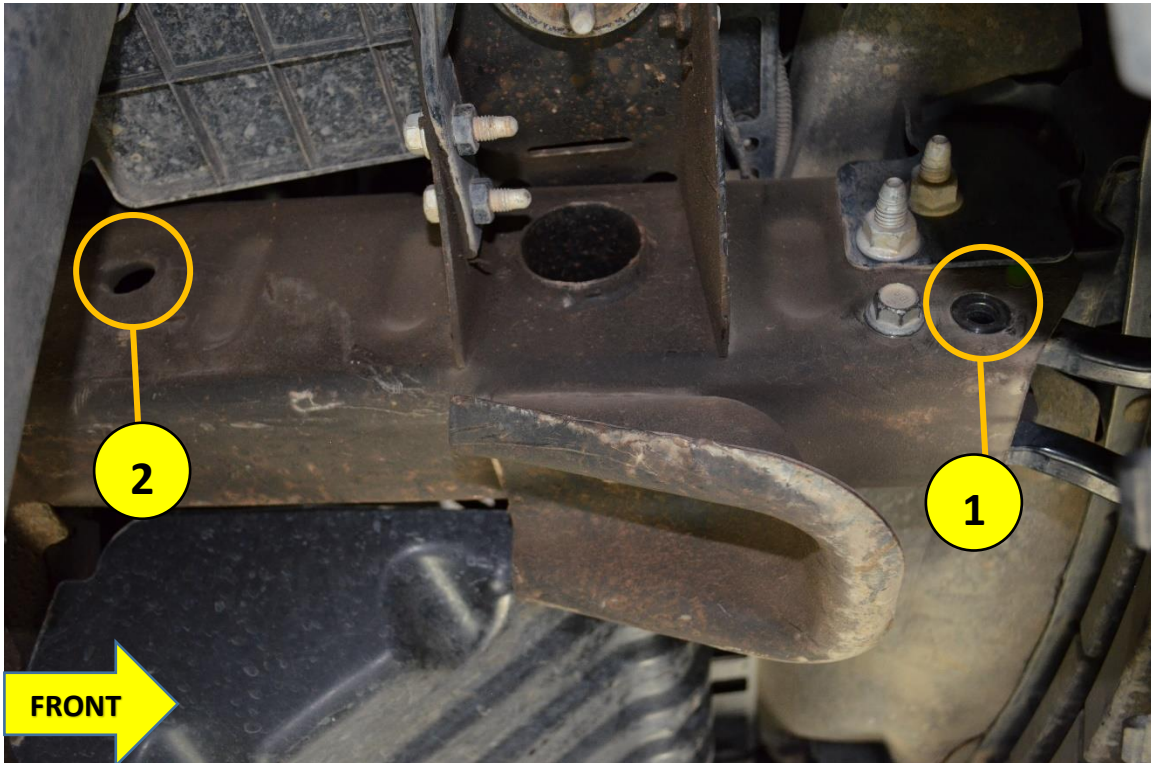

Figure 12 – Frame Attachment Points (Passenger Side)
- 9.3.6. Verify GM1500-BRKT-PA aligns with large rear hole, per Fig 12.